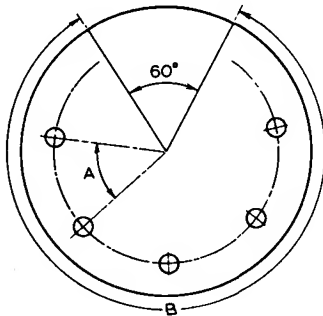

Fig. 1.63
- In the circular plate shown in Fig. 1.63 a sector of 60° is cut out and the remainder divided up to give 5 holes equally spaced. Find the angle A between the holes.